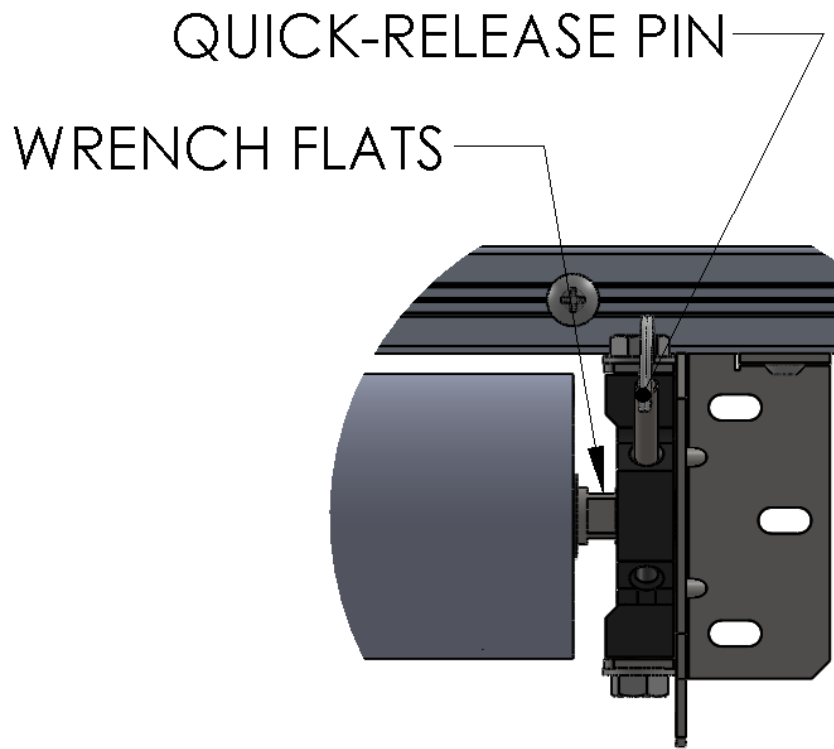

Figure 9 ADJUST SPRING TENSION
2. Spring tension is increased/decreased with a two-step process. To increase spring tension, insert the open-end wrench onto the wrench flats, then pull the Quick-Release pin. Pull the wrench down (CCW) until the pin can be replaced – about a quarter turn. Repeat this two-step process about 8 times equaling about 2 full turns on the spring. (Figure 9 ADJUST SPRING TENSION)